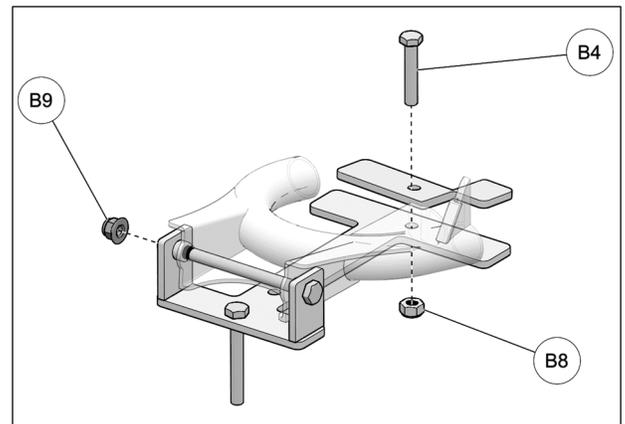
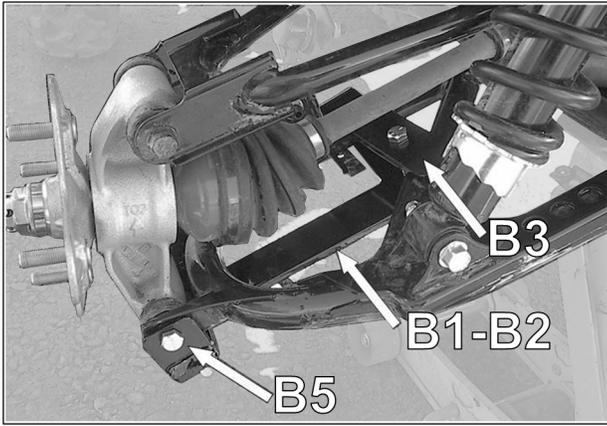

Fig. 9
Fig. 10
8. Secure bracket and cover together with bolts (**B4-B5**) and nuts (**B8-B9**) provided. Tighten bolts to 50 N•m [37 lb•ft] of torque. See Fig. 9 and Fig. 10